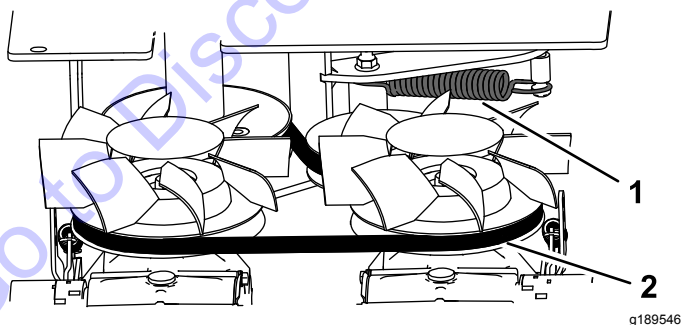

Figure 37
4. Inspect the belt (Figure 37). Replace the belt if it is worn; refer to Replacing the Drive Belt \(page 29\).
1. Rear bolt (2)
3. Side bolt (4)
6. Remove the extension spring (Figure 37).
11. Install the extension spring (Figure 37).